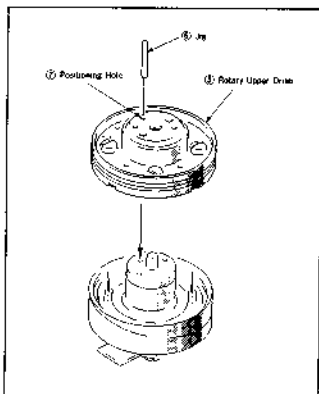

Fig. 30
- 1) Wipe clean the flange surface and the rotary upper drum ⑤ surface that makes contact with it, and confirm that they are free from dirt and scratches.
- 2) Insert the jig ② (Ref. No. J-8) into the drum positioning hole, then set then set the rotary upper drum ⑤ by passing the jig through its positioning hole ⑦. (Fig. 30)